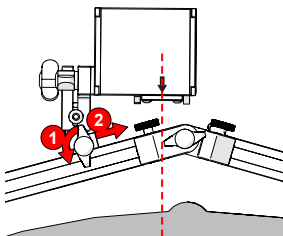

Fig. 28 - Loosen bar clamp knob to position tracker
4. Slightly loosen the black wing knob of the mounting bracket **1** (Fig. 28). Slide the Tracker along the frame bar **2** (Fig. 28) to align the laser with the centre of the weld to be tracked. Use the arrow on the housing of the Tracker to assist with alignment.